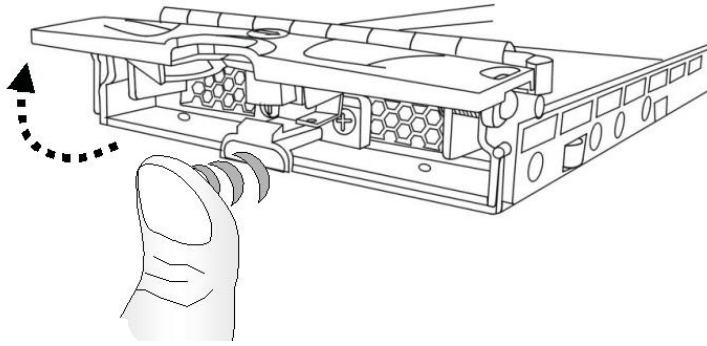

Figure 2-10: Open Drive Tray Front Flap
- Step 2. ***Open the front flap on the drive tray.*** (See **Figure 2-10**) To open the front flap, push the release button (shown in **Figure 2-9**) on the front bezel. The front flap will open in an upward direction.